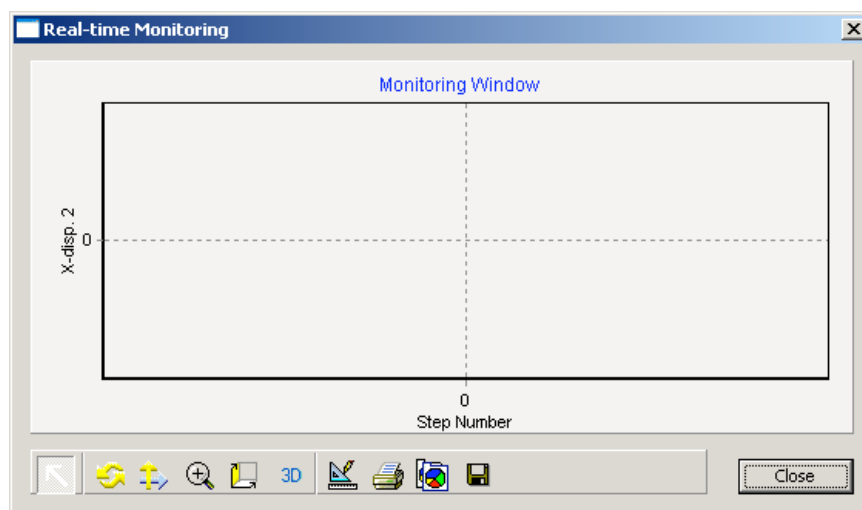
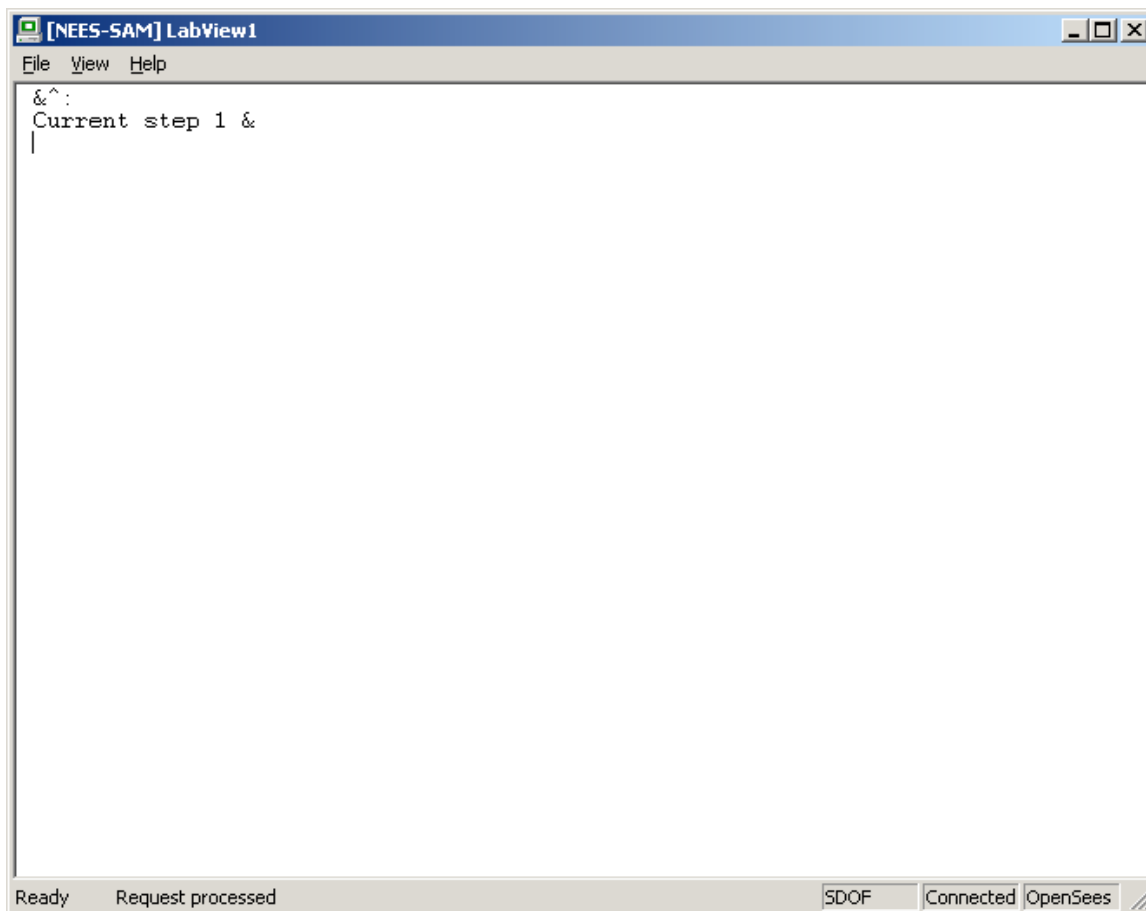

Figure 9: Displacement Time History Window for Local Test.
Figure 11: NEES-SAM Window for Local Test.
- The OpenSees command window will prompt the user to zero out the controller. Since our test is fully simulated, this is not required. After hitting **enter**, NEES-SAM will open two Real-time Monitoring windows (Figures 9 and 10). After hitting **enter** one more time, the NEES-SAM window looks like Figure 11. It prints Current Step 1 &.